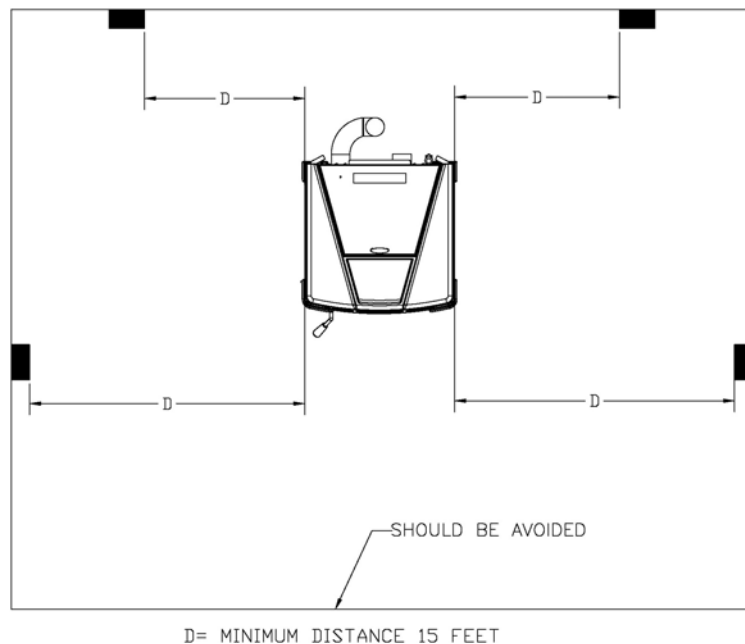

Figure 41
- If you are using a wireless wall thermostat or a hand held thermostatic remote control, you can locate the receiver behind the stove's back panel, on the right side, just below the terminal block. Most receivers are already equipped with quick-connect terminals. Simply unplug the PC board wires connected to the back of the terminal block and connect them directly with the receiver's terminals. Location of the thermostat is very important to obtain the best comfort and efficiency from you EUROZONE. The thermostat should be mounted 50 inch from the floor on a wall located 15 to 20 feet from the stove. You should avoid installing directly in front of the stove to avoid cycling. (See Figure 41)